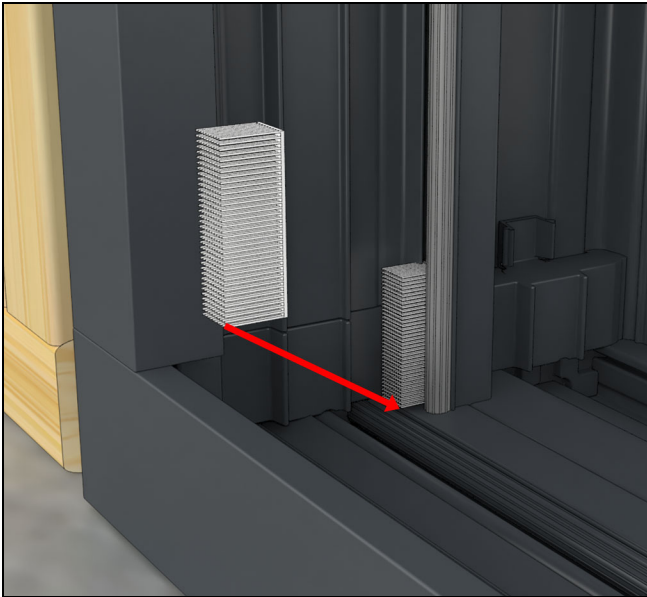

Figure 78
14. Place another dust block at the bottom of the jamb behind the jamb weather strip. See Figure 78.